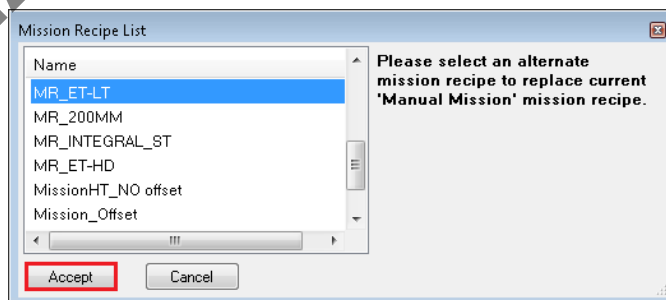

Figure 7-2 Data import – Mission Recipe List
3. You can see the Mission Recipe List opens, as shown in Figure 7-2.